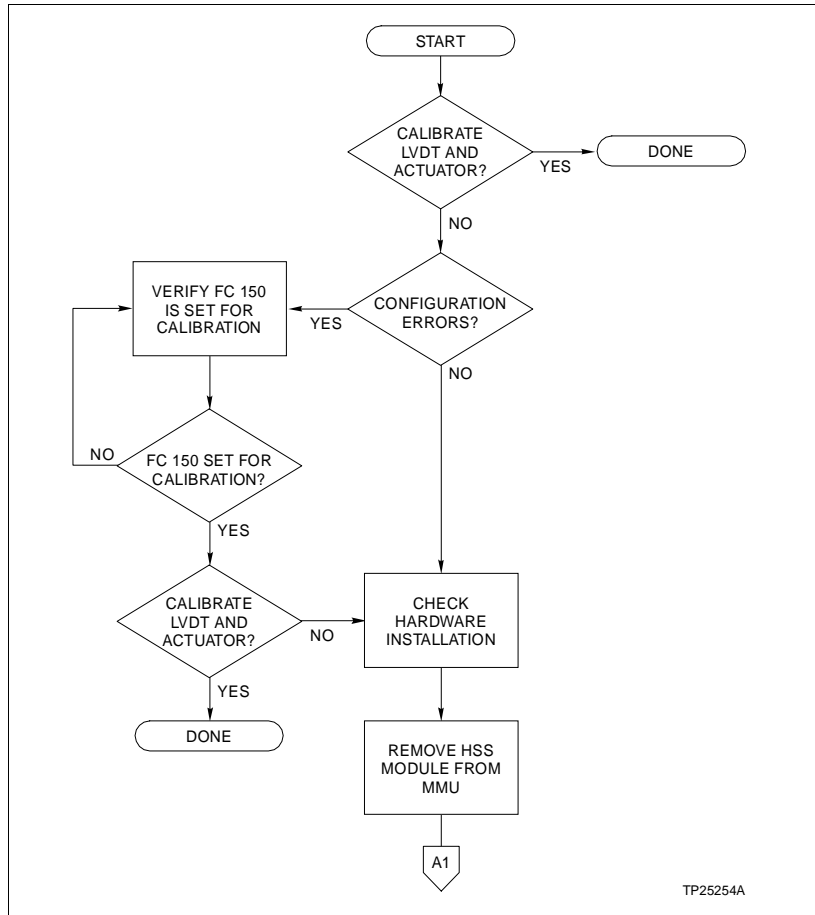

Figure 6-1. Off-Line Failure Troubleshooting Flowchart
1. Locate the cause of the failure using the troubleshooting flowchart in Figure 6-1.